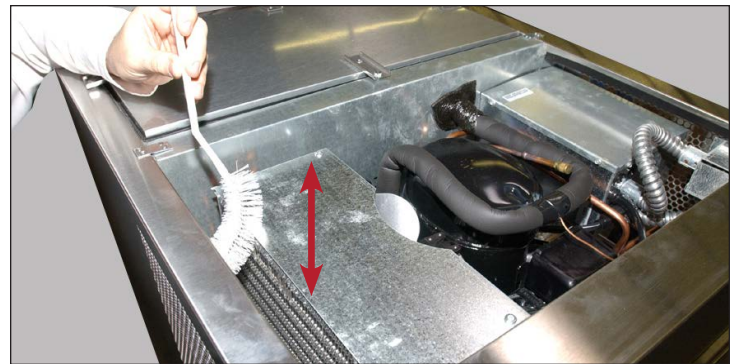

Fig. 2. If accessible, clean the condenser coil. Never brush across coil fins.
3. If accessible, with a stiff bristle brush, carefully clean accumulated dirt from the front condenser coil fins. See fig. 2. If you cannot access or completely clean the condenser coil, then remove the rainshield. See figs. 3 and 4.